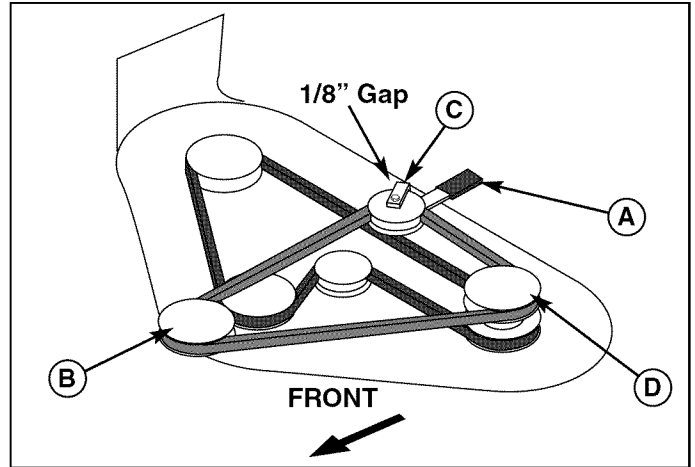

Figure 53. Mower Belt Routing
2. Move the idler arm (A, Figure 53) to relieve belt tension. Drop the belt from the PTO (electric clutch) pulley.
3. Loosen the nut and lockwasher securing the idler pulley belt guide (C, Figure 53).
6. See Figure 53. Position the idler pulley belt stop (C) in its original position so that there is a 1/8" (3mm) gap between the pulley and belt stop.